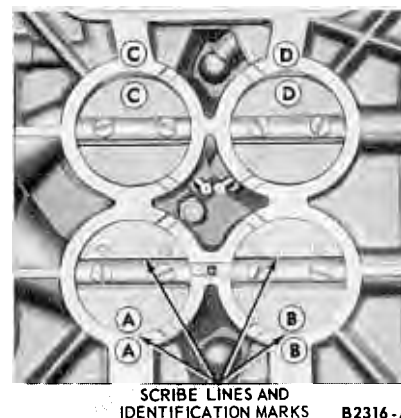

FIG. 25—Throttle Plate Removal
12. If it is necessary to remove the throttle plates, lightly scribe the primary and secondary throttle plates along the throttle shafts, and mark each plate and its corresponding bore with a number or letter for proper installation (Fig. 25).
Refer to the lines and identification marks scribed on the throttle plates (Fig. 25), and install the primary throttle plates in their proper location with the screws snug, but not tight. Invert the main body and hold it up to the light. Little or no light should show between the throttle plates and the throttle bores. Tap the plates lightly with a screwdriver handle to seat them. Tighten and stake the screws.